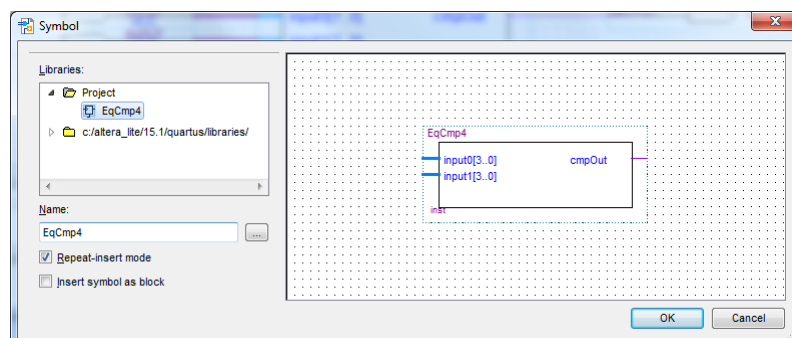
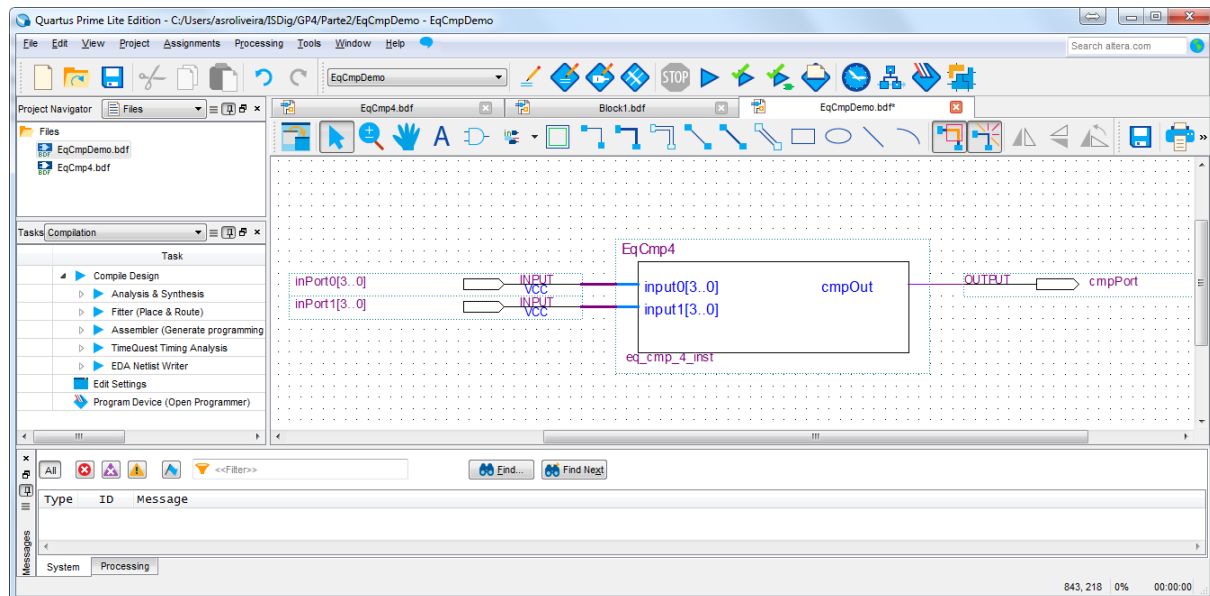

Figure 27 - Instantiation in a schematic diagram of the module “EqCmp4”.
Figure 28 - Interconnection of the “EqCmp4” module and the input and output ports and identification of the various circuit elements in the “EqCmpDemo” module.
4. Create a new file for a schematic diagram called “EqCmpDemo.bdf” to instantiate the equality comparator built in the previous point (Figure 27) and link its ports as illustrated in Figure 28.